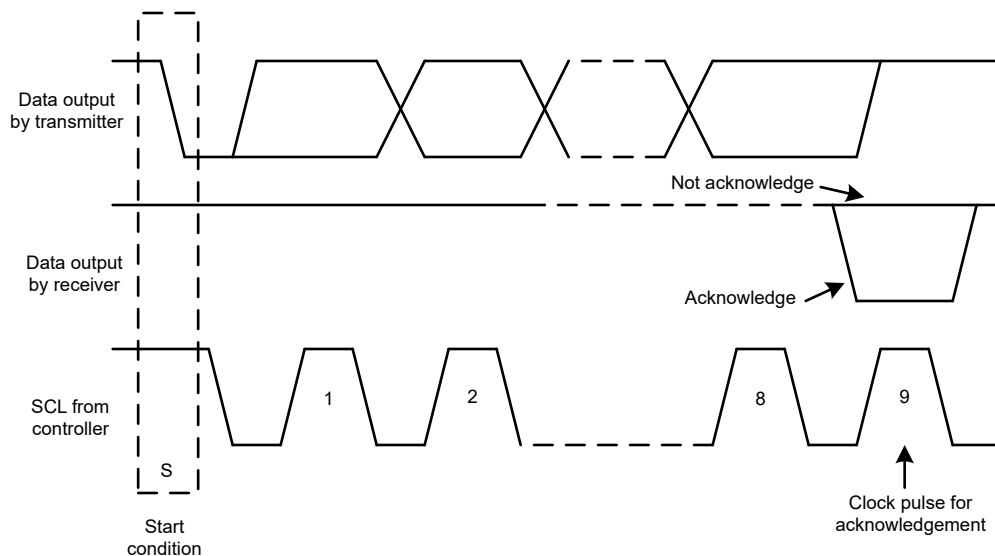
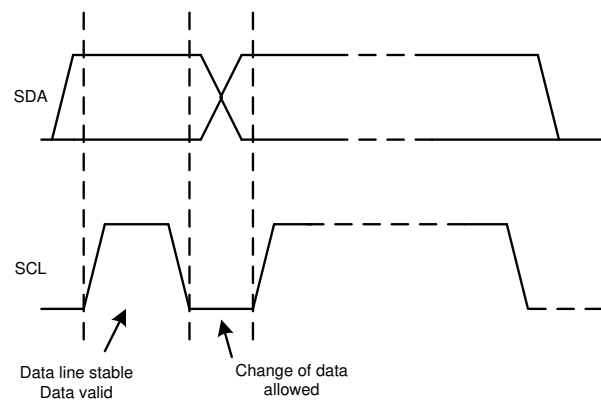

Figure 7-20. Acknowledge and Not Acknowledge on the I²C Bus
Figure 7-22. Bit Transfer on the I²C Bus
Other than specific timing signals, the I²C interface works with serial bytes. At the end of each byte, a ninth clock cycle generates and detects an acknowledge signal. An acknowledge is when the SDA line is pulled low during the high period of the ninth clock cycle. Figure 7-20 depicts a not-acknowledge, when the SDA line is left high during the high period of the ninth clock cycle.
2. The controller then generates the SCL pulses, and transmits the 7-bit address and the read/write direction bit (R/\bar{W}) on the SDA line. During all transmissions, the controller makes sure that data are valid. Figure 7-22 shows that a valid data condition requires the SDA line to be stable during the entire high period of the clock pulse. All devices recognize the address sent by the controller and compare the address to the respective internal fixed address. Only the target device with a matching address generates an acknowledge by pulling the SDA line low during the entire high period of the 9th SCL cycle (see also Figure 7-20). When the controller detects this acknowledge, the communication link with a target has been established.